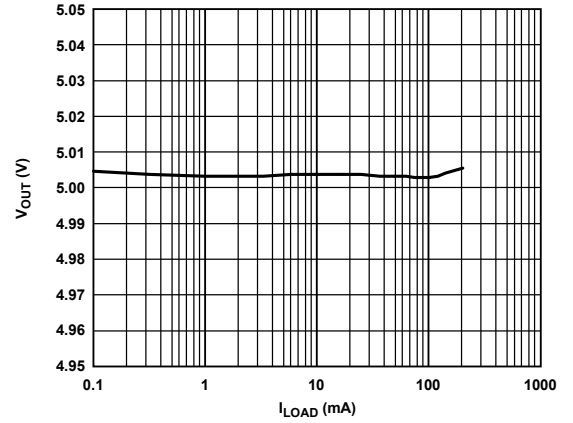

Figure 6. Output Voltage ( $V_{OUT}$ ) vs. Load Current ( $I_{LOAD}$ )
- Based on an endpoint calculation using 100 $\mu A$  and 200mA loads. See Figure 6 for typical load regulation performance for loads less than 1mA.